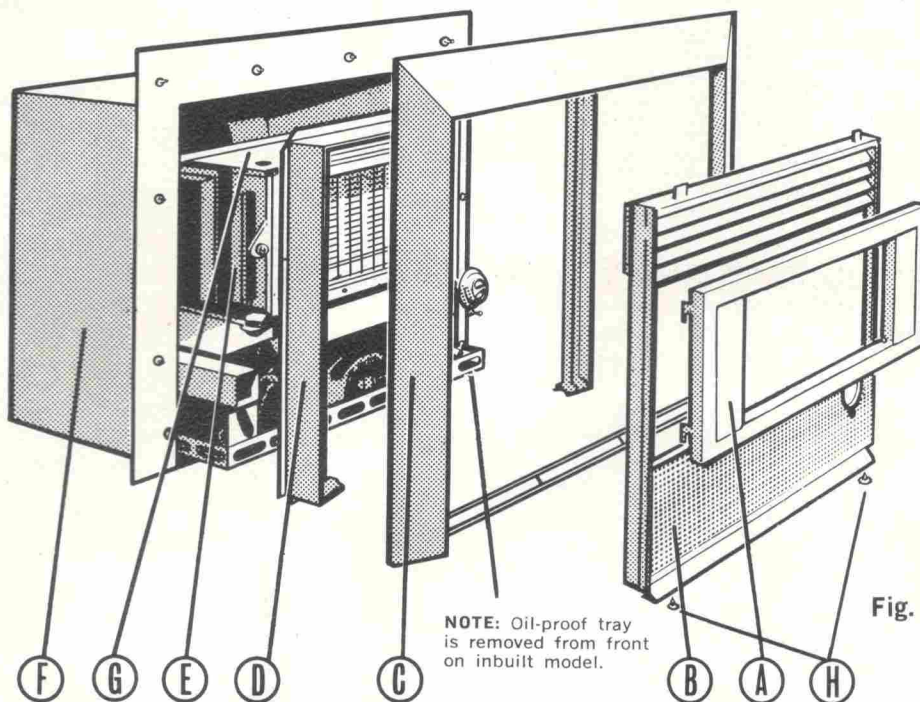

Fig. 2
1. Remove the complete front of the heater (see A and B, Figure 2, Page 1). The front is removed by loosening two screws marked "H", Figure 2.